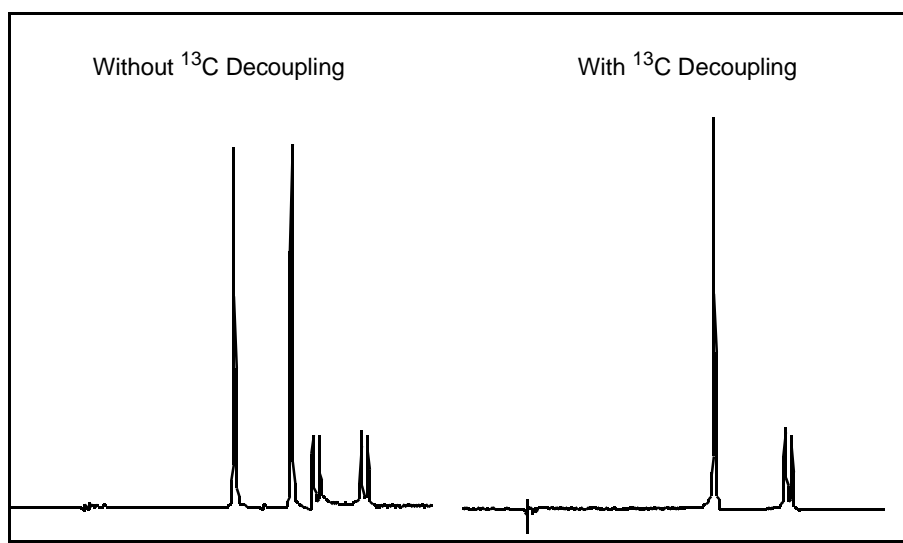

Figure 51. HMQC Without and With ^{13}C Decoupling
- b. *Single-broadband UNITY and VXR-S systems* – Now that you are convinced you are seeing ^{13}C satellites, check your decoupling. Set `pwX` to the 90° value, `pwXw` to the same value and `tpwr=pwXlv1 dm='nnn', 'nny' at=0.256 lb=2 au`. These two spectra should now both contain ^{13}C satellite signals, in the first case coupled, and in the second case ^{13}C -decoupled, as seen in Figure 51.